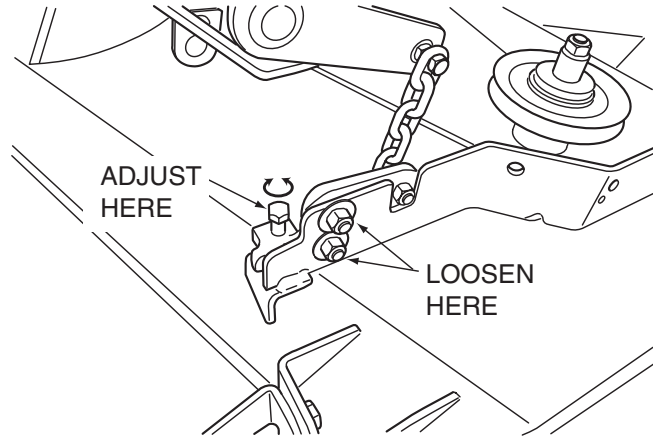

Figure 6-5. Cutter Deck Level Adjustment
1. On the front LH side of the cutter deck locate the cutter deck level adjusting bracket (See Figure 6.5)